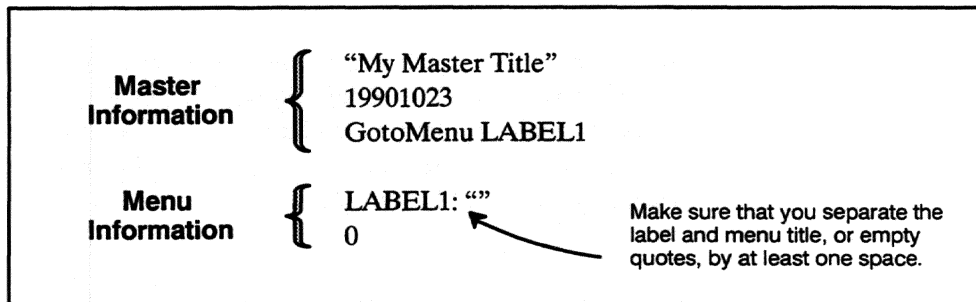

Figure 20-17 Minimum script file for adding a master title to the Easy View menus.
1. *Change the master title.* Enter a script file that follows the format shown in Figure 20-17 if you just want to change the master title.